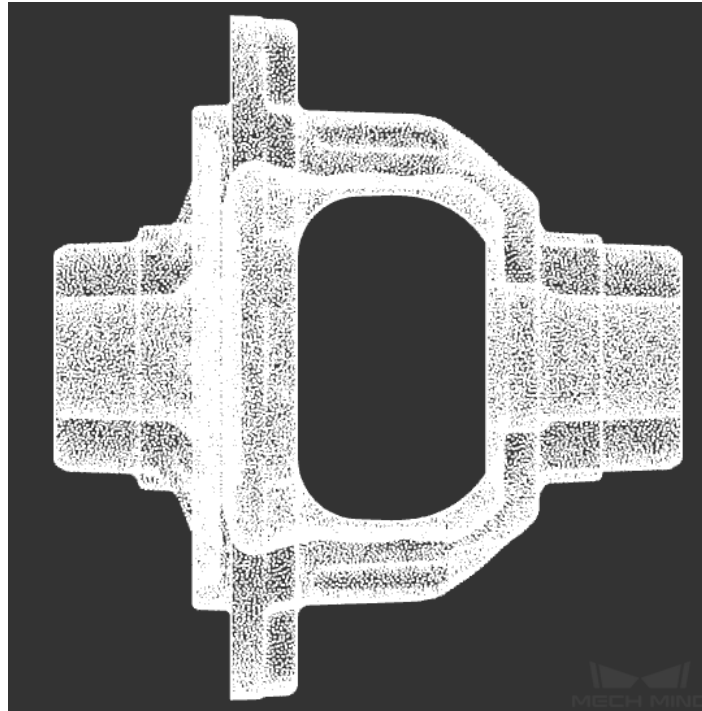

Figure 10. Edited Point Cloud
5. Reload the saved edited point cloud file to see that the editing has been saved correctly, as shown in *Figure 10*.